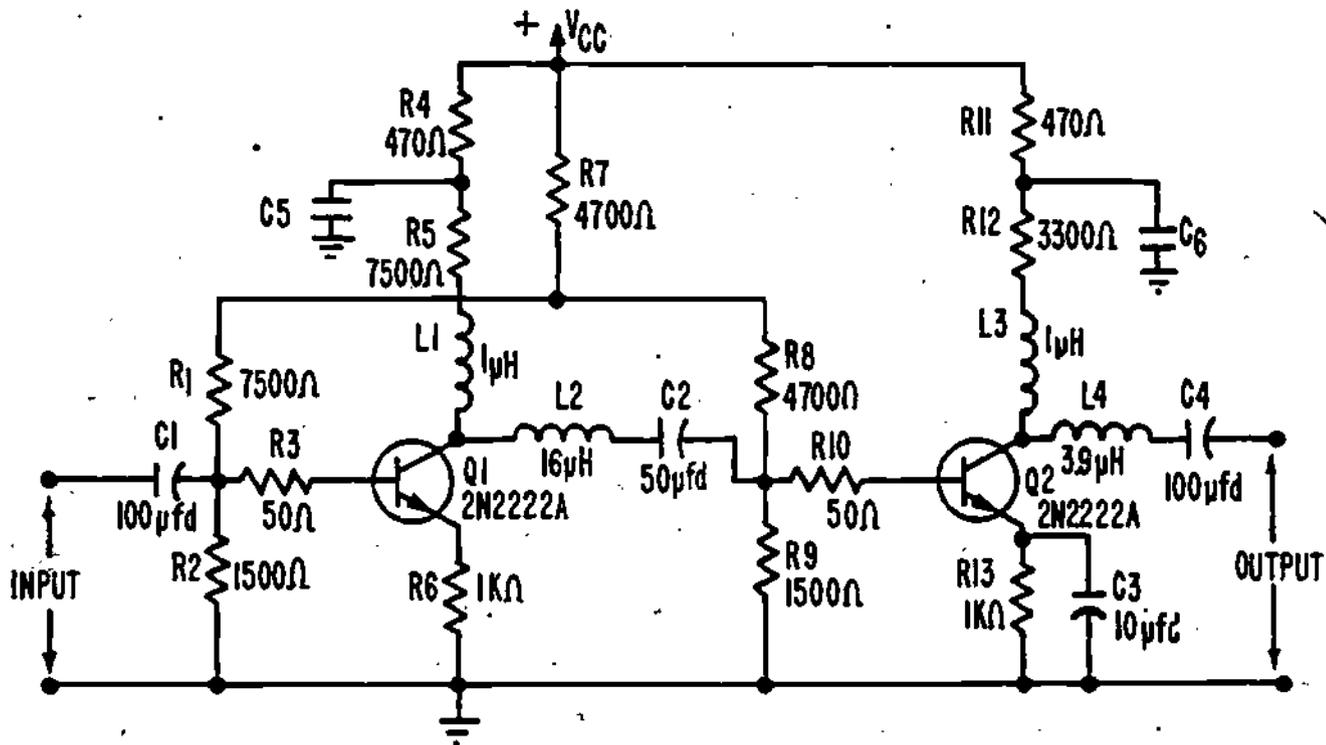

Figure 22
19. Let's take another look at the two-stage video amplifier circuit shown in Figure 22 and examine the components which provide forward bias and emitter stabilization.
In Figure 22, Class A forward bias for Q2 is provided by components \_\_\_\_\_ and \_\_\_\_\_, and emitter stabilization for Q1 is provided by component \_\_\_\_\_.